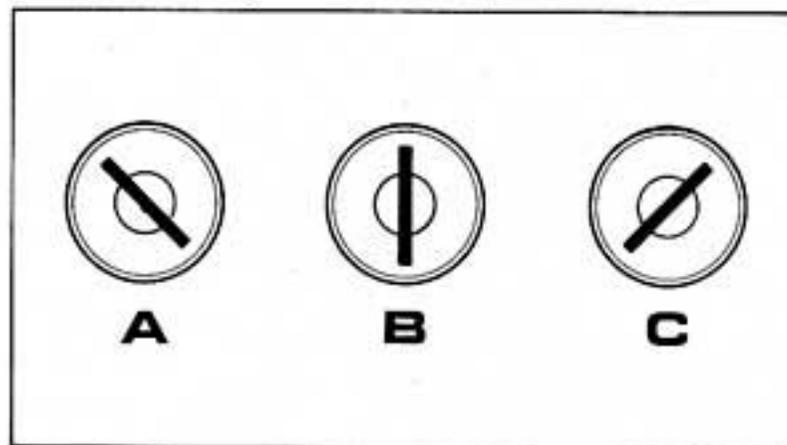

Fig. 25
Parking lights, Stop, Running (see Fig. 25).
- 1) **Key in position A means parking** (see Fig. 25)
2) **Key inserted in C position « Marcia = Running »** (see Fig. 25)
3) **Key in still position B** (see Fig. 25)